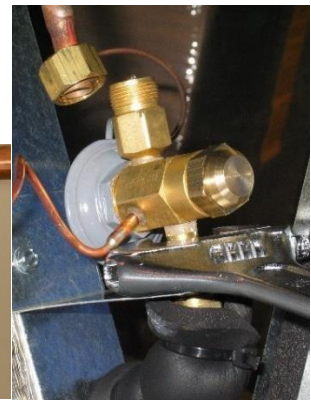

Figure 24. Install White Teflon O-ring in both connections (not on iSeries). Attach and tighten lower connecting nut
1. Cut the zip ties holding the liquid line in place before installing the TXV. Install the white Teflon o-ring in both connections of the TXV (Figure 24). Attach and tighten lower connecting nut to the distributor as shown in Figure 24. On iSERIES, connect liquid line directly to the distributor (Figure 27).